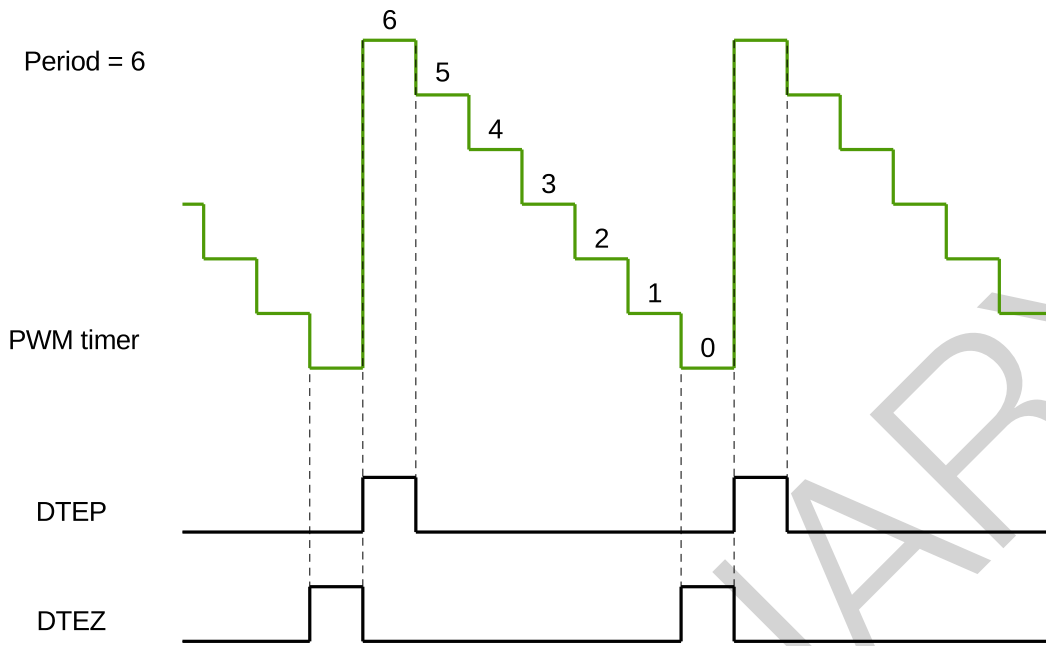

Figure 32-12. DTEP and DTEZ Generation in Count-Down Mode
2. DTEP and DTEZ do not happen simultaneously. When the PWM timer is in count-down mode, DTEZ will always happen one cycle earlier than DTEP, as demonstrated in Figure 32-12, so their action on PWM signals will not interrupt each other. When the PWM timer is in count-up-down mode, DTEZ will not occur.